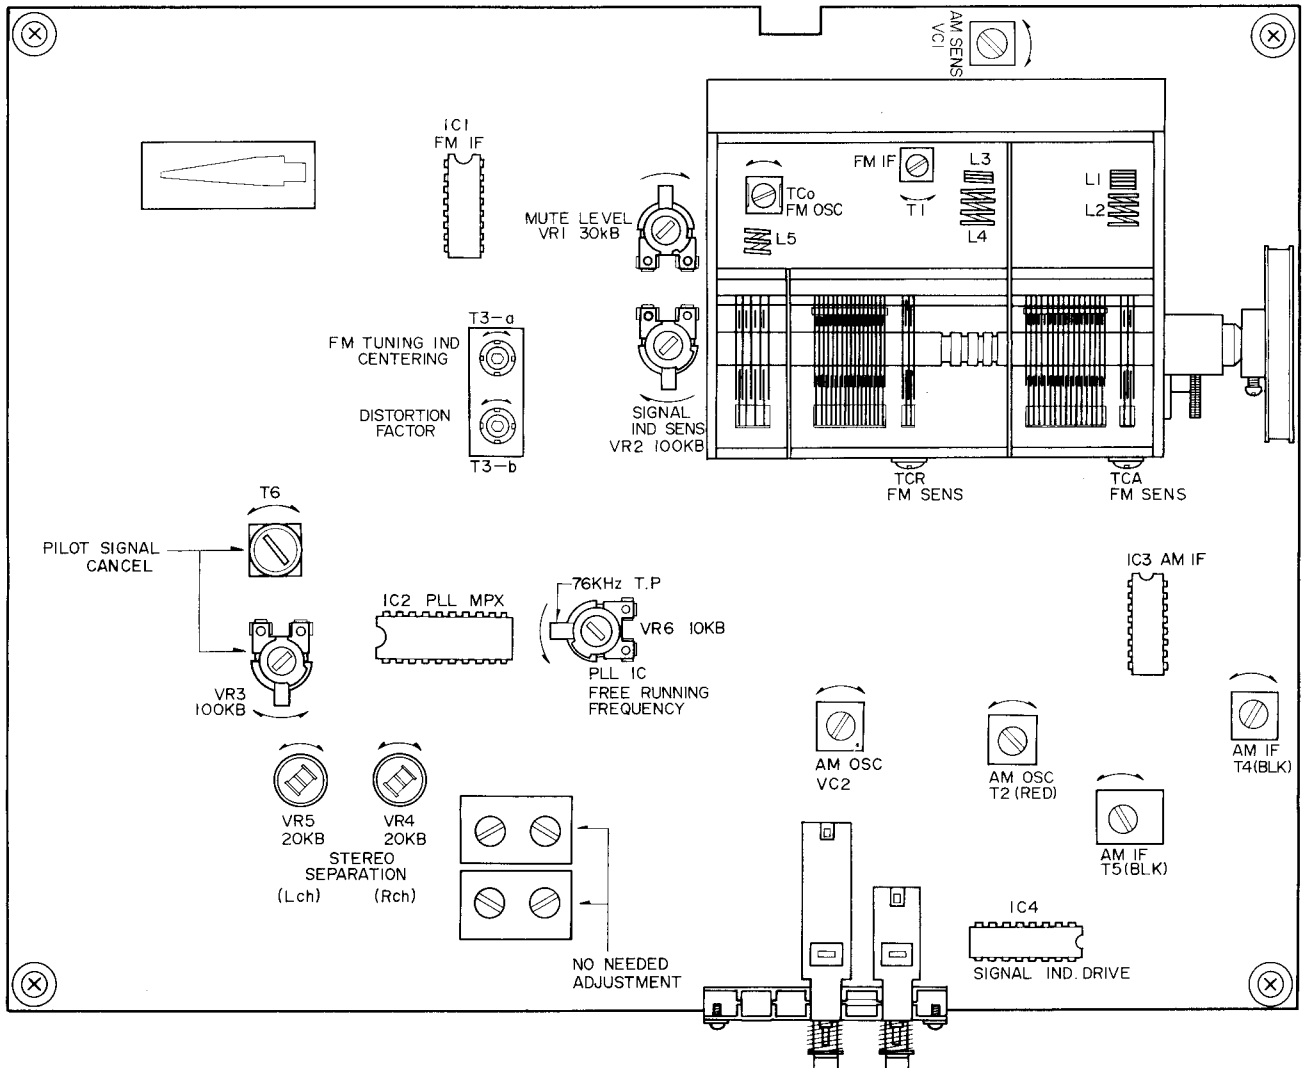

Fig. 5 Tuner P.C Board ATK-2001A
**1. FM SECTION ADJUSTMENT (Refer to Figs. 5, 6 and 7)**